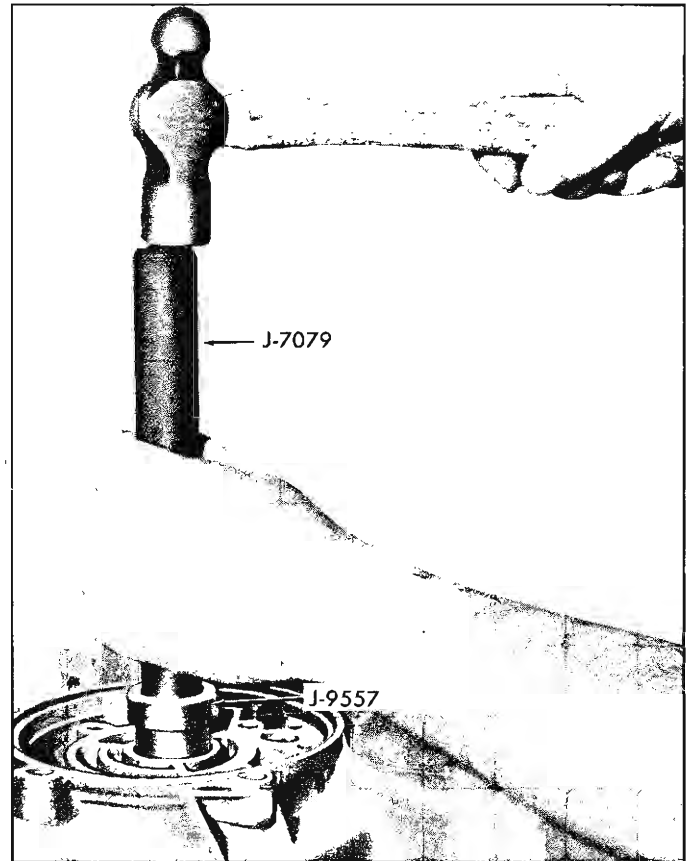

Fig. 33—Installing Case Rear Bushing
2. To install new bushing, drive or press bushing into place from rear of case using Tool J-9557 and handle J-7079 (fig. 33).